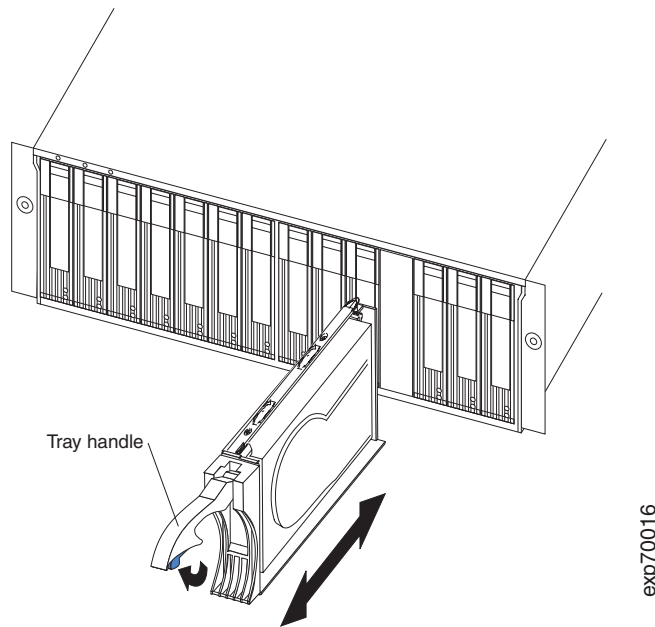

Figure 13. Removing drive CRUs
3. Pull the handle on the tray out so that it is in the open position and pull the drive out of the bay as shown in Figure 13.